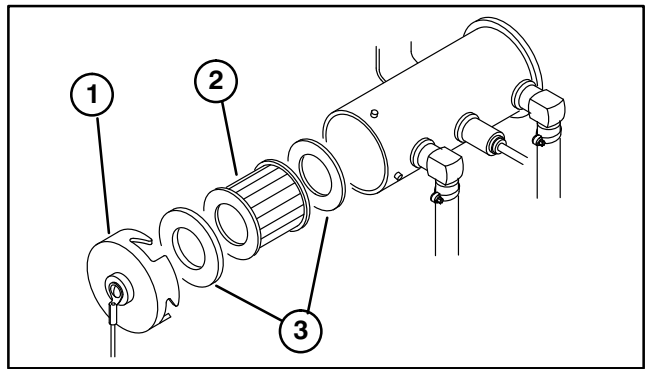

Figure 37
4. Place a drain pan under fuel pump and remove cover from fuel pump (Fig. 37). Take care not to damage wire while removing cover.
5. Pull filter out of pump body (Fig. 37).
8. Clean cover of any residue (Fig. 37), insert filter into body and install cover.